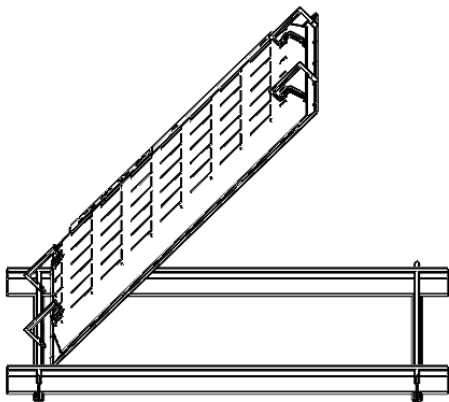

Figure 3
Pass fixture through the grid at a 45 degree angle and lay fixture into the grid (Figure 3).
*Note: Fixture weights are on the next table. Ensure grid location is rated for fixture weight before moving to next step. If unsure, use cable to support fixture to appropriate support beam above fixture using the circular holes in the corner tabs (Figure 3).*